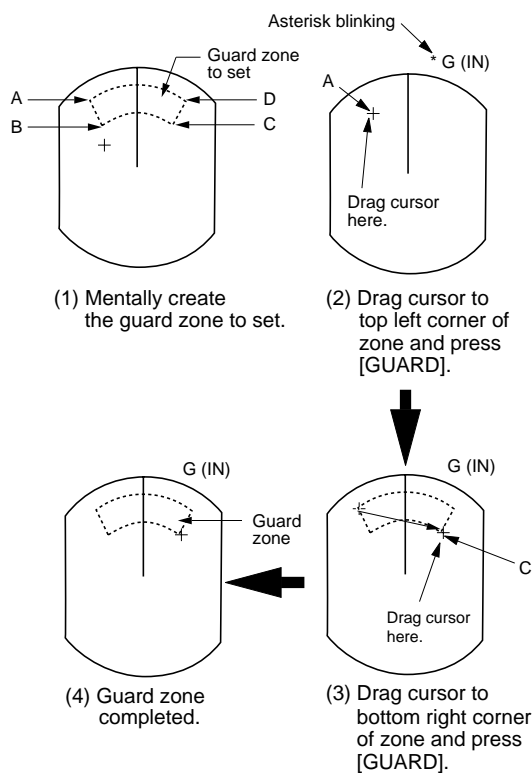

Figure 3-8 How to set the guard zone
2. Operate the omnipad to set the cursor on point A or B. Press the [GUARD] key. "\*G (IN)" or "\*G (OUT)", with asterisk blinking, appears at the top right-hand corner of the display. See Figure 3-8 (2). (The asterisk indicates the guard zone is partially set.)
3. Operate the omnipad to set the cursor on point C or D. See Figure 3-8 (3).
4. Press the [GUARD] key. The asterisk disappears. See Figure 3-8 (4).